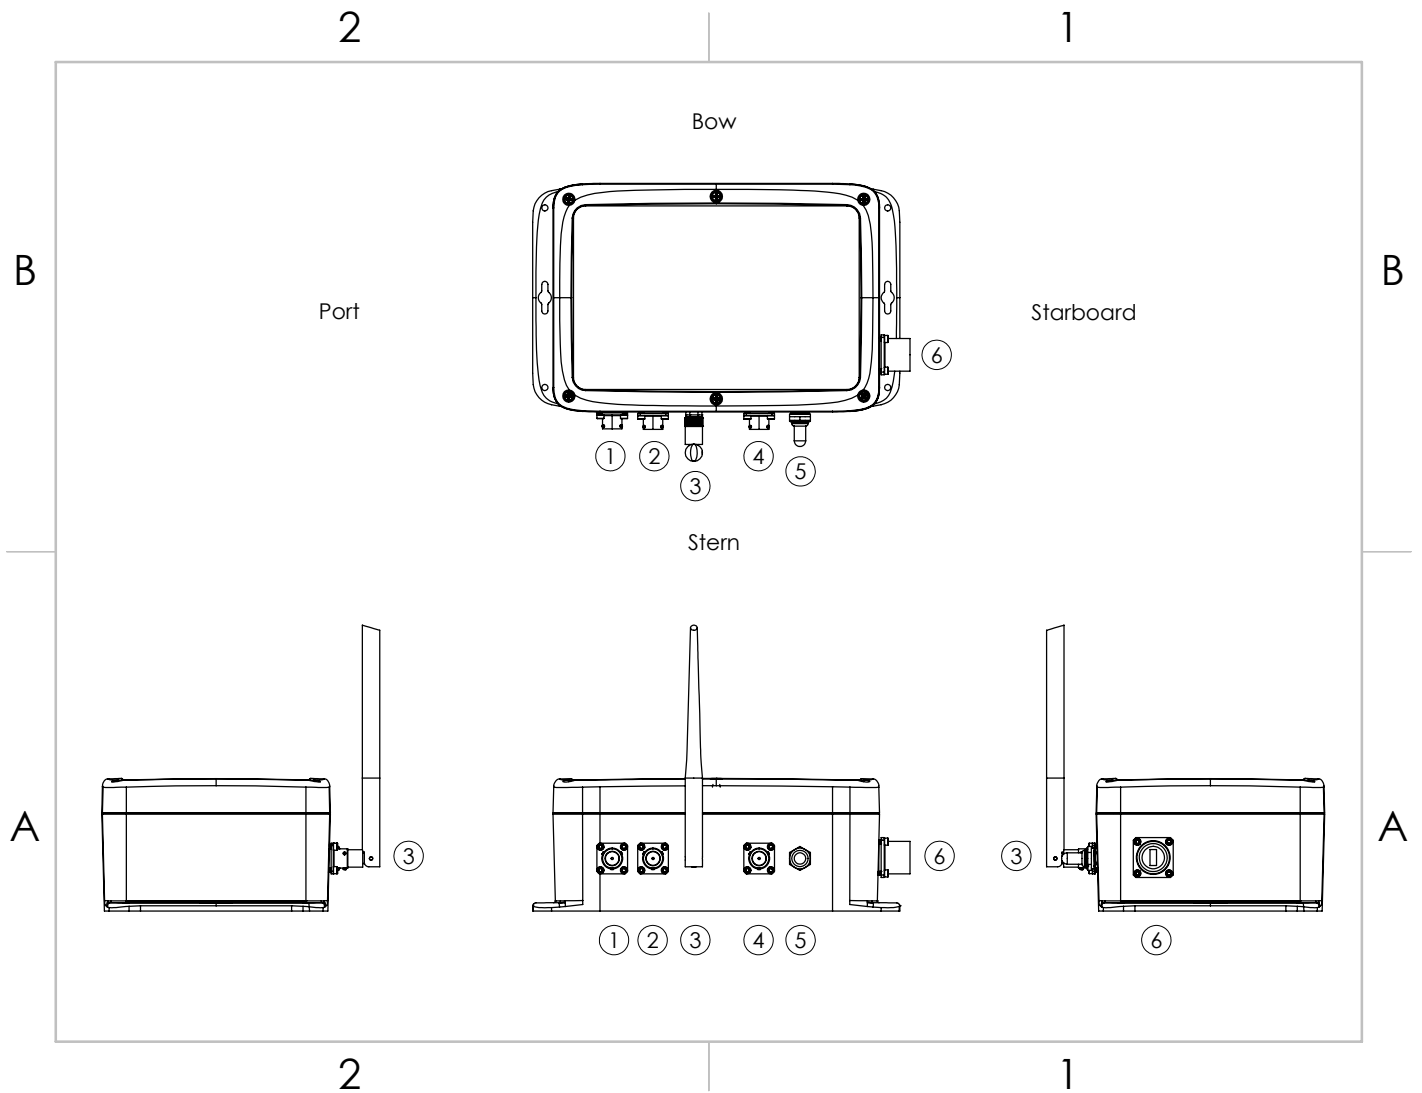

Figure 5: AutoNav™ Layout
16. Place the AutoNav™ on the Hydrone™ frame. Power switch facing the stern. (Figure 5)
19. Screw in the 1x Telemetry Module Antenna into the SMA bulkhead on the AutoNav™. (Figure 5)